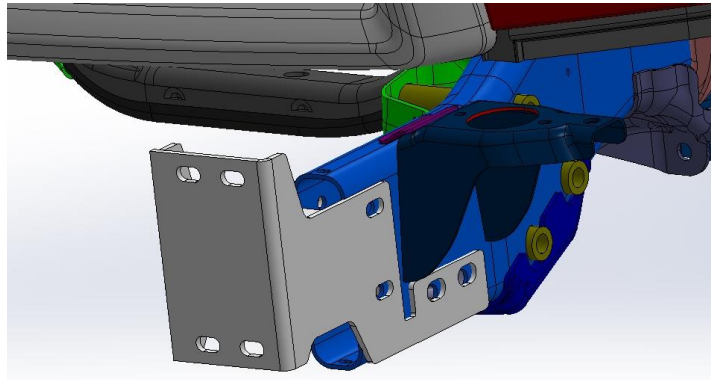

Figure 8
6. Install intermediate mount onto the frame rail using the 1/2"-13 bolts and nuts through the FRAME UNDER RUN GUARD holes, and then replace the bolt strip in the original orientation. Insert all hardware from the inside out, with the nuts accessible from the outside of the frame rail. **DO NOT FULLY TIGHTEN.** Repeat for other side. (Figure 8)